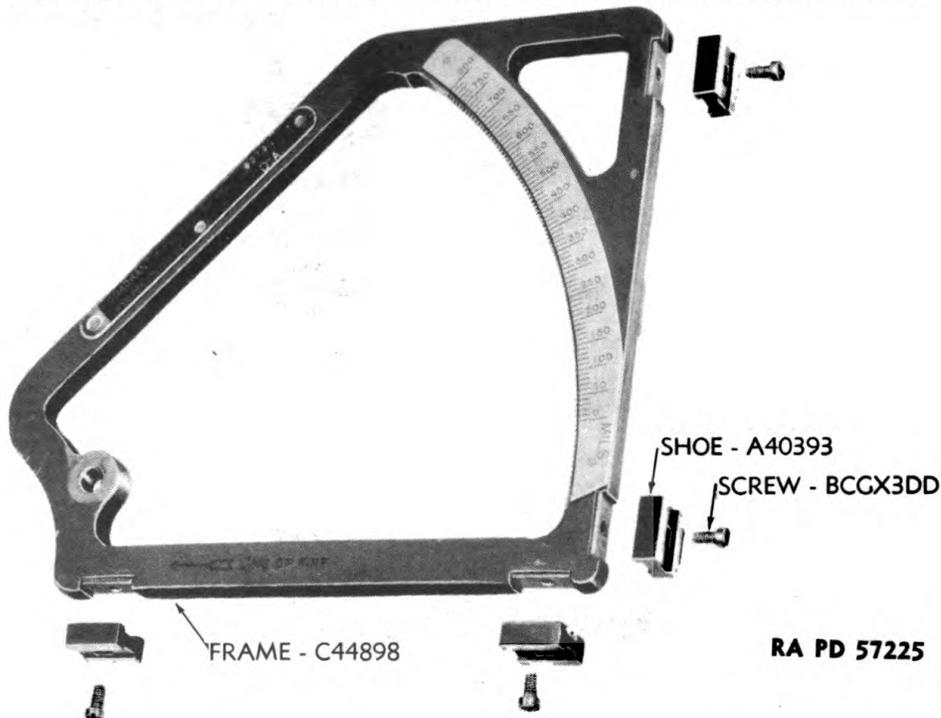

Figure 13—Gunner's Quadrants M1 and M1918—Frame with Shoes Removed
- (7) **REMOVE SHOES FROM FRAME** (fig. 13). Remove the screws securing the shoes to frame, and tap off shoes with a brass hammer.
a. **Install Shoes to Frame (fig. 13).** Place shoes in position on frame, and secure with screws. Refer to paragraph 16 for adjustment of shoes.
- (1) File the portion of the leveling clamp screw riveted to the clamping screw knob in order to free knob.
- (2) Drive clamping screw knob from clamping screw, and remove screw through the inside of level guide.
f. Remove Shoes from Frame (fig. 13). Remove the screws securing shoes to frame assembly, and tap off shoes with 3-ounce brass hammer.
a. Install Shoes to Frame (fig. 13). Place shoes in position on frame, and secure with screws. See shoe adjustment paragraph 16.